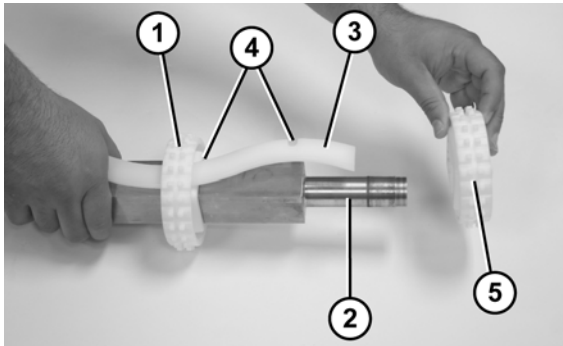

Figure 72
1. Slide the first sprocket (**Figure 72, item 1**) onto the drive spindle (**Figure 72, item 2**).
2. Insert the sprocket alignment bar (**Figure 72, item 3**) into the first sprocket and align the sprocket with the notch (**Figure 72, item 4**) in the sprocket alignment bar.
3. Slide the remaining sprockets (**Figure 72, item 5**) onto drive spindle and align each sprocket with the notches (**Figure 72, item 4**) in the sprocket alignment bar.